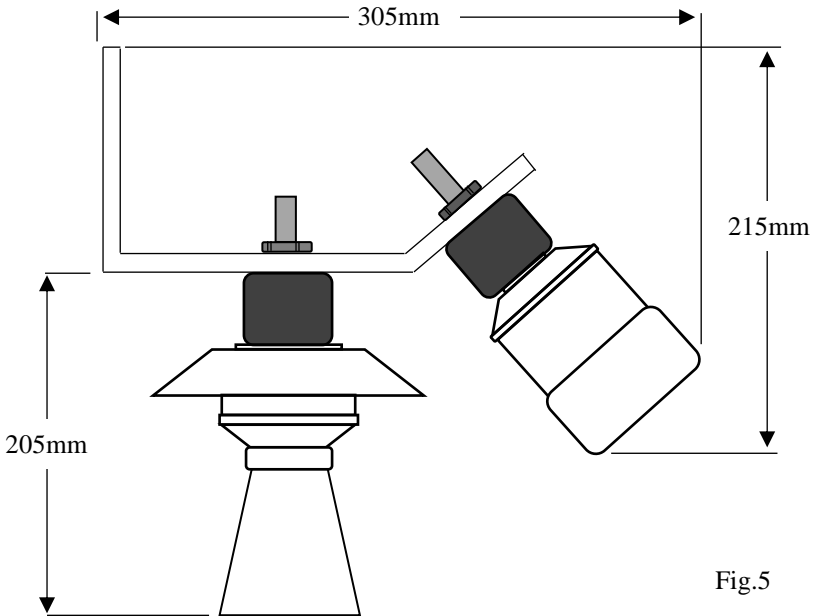

Fig.5
**Care should be taken not to overtighten the sensor when everything is connected, as seen in Fig.5 below, as this could cause damage to the housing.**